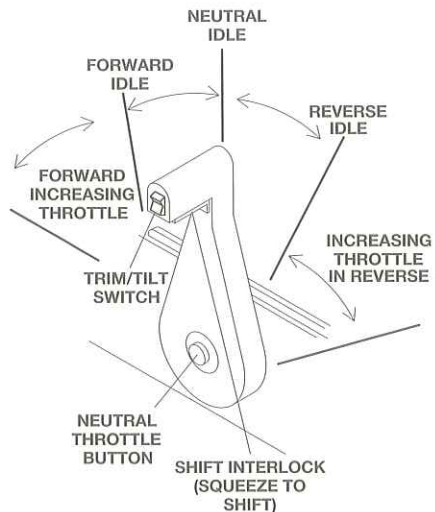

FIGURE 7-1 TYPICAL THROTTLE SHIFT CONTROL
The engine owner's manual included with your Owner's Packet has detailed information about the throttle/shift control installed on your boat. The control serves two purposes: (1) it regulates the engine speed and (2) it acts as a gear shift lever to control the rotation of the propeller. When the handle is in the center, the gearshift is in neutral. As you move the handle forward and backward, you should feel the handle drop into a detent when the handle moves into the NEUTRAL position. The engine will not start unless the control is in NEUTRAL. Figure 7-1 shows a typical control.